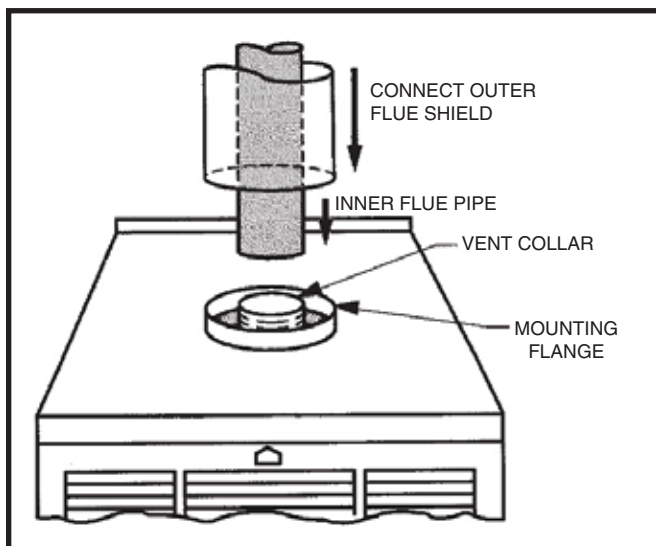

Figure 22. Combustion Air Pipe Connection
3. Connect inner flue pipe to vent collar of the furnace. See Figure 22 (page 12).
4. Connect combustion air pipe to furnace collar with sheet metal screw. See Figure 22.